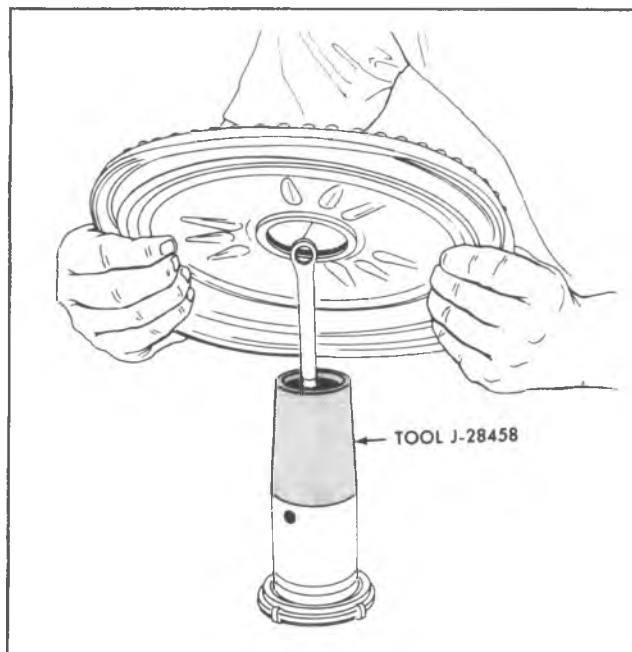

Fig. 5-5A—Installing Secondary Diaphragm and Support Plate Assembly
15. Place the power piston on bench with the push rod up. Install assembly cone J-28458 over push rod end of piston (fig. 5-5A).
17. With assembly Tool J-28458 mounted on the power piston, place the secondary diaphragm and support plate assembly over the power piston (see Figure 5-5A) and push down until it bottoms on power piston.